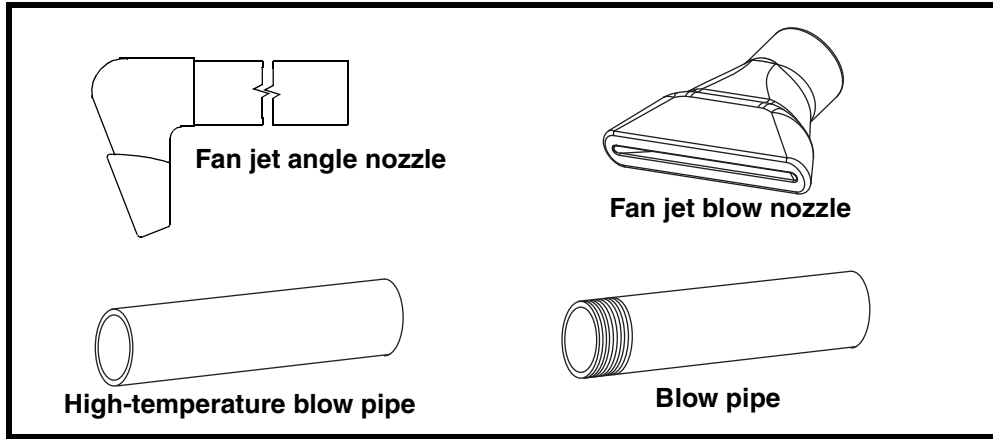

Figure 8. Mounting Nozzles/Pipes (High-Temperature Applications)
3. For internal storage vessel temperatures of 500°F (260°C) or higher, install blow pipe and fan jet angle nozzle, fan jet blow nozzle, or high-temperature blow pipe (Figure 8) on vessel as follows: